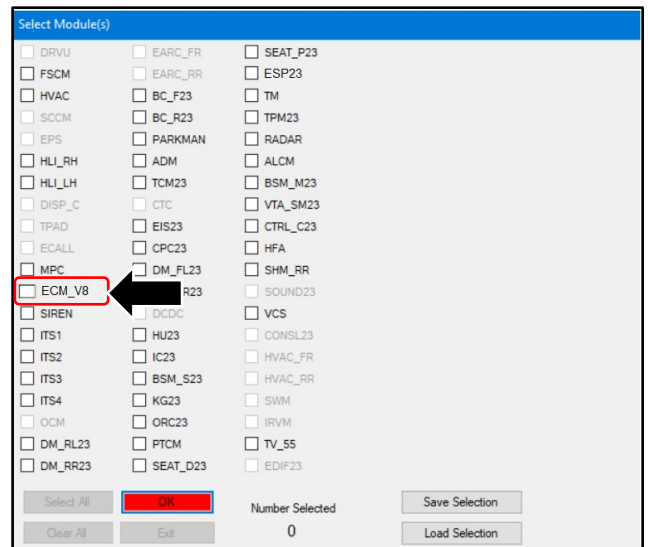

Figure 6
11. Select "ECM\_V8" and click "OK" (refer to Figure 6).